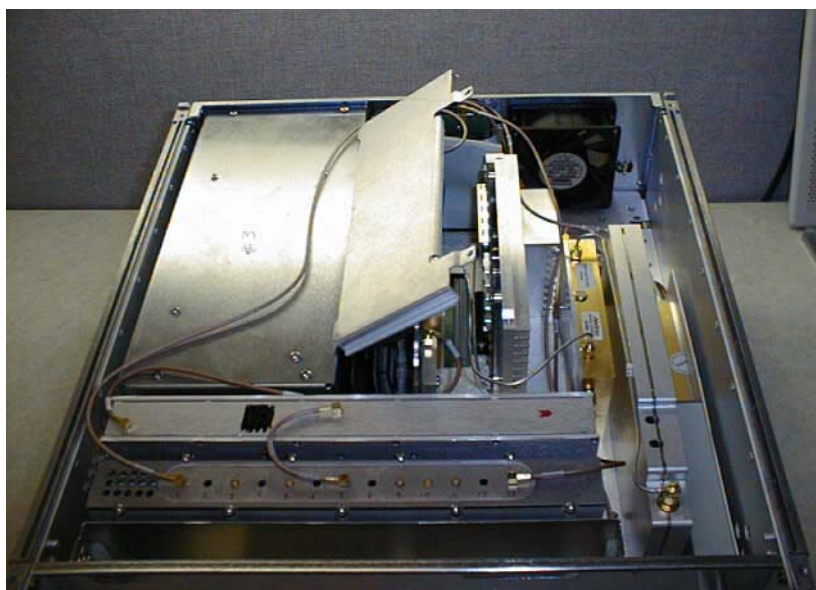

Figure 6-9. Removal of Card Cage Cover Retaining Screws
1. Use a Phillips screwdriver to remove the two screws that secure the card cage cover, see Figure 6-9. Retain the screws.